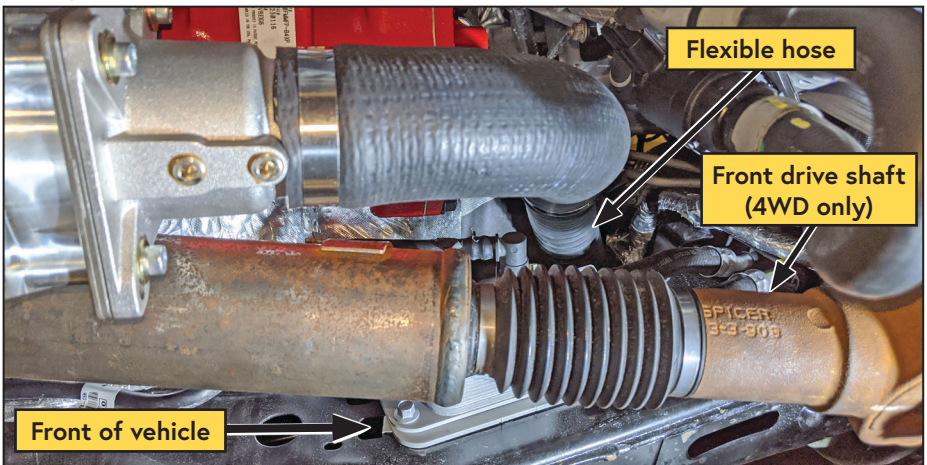

Figure 38 — Installing the air filter
- ☐ Using the supplied gear clamps, attach the flexible hose to the connector tube (Figure 38).